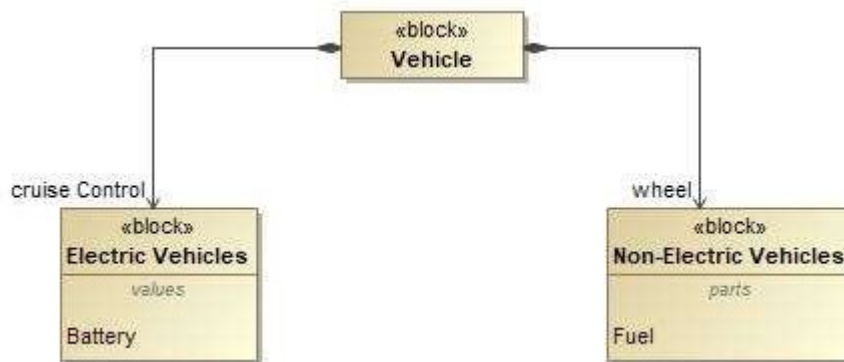

Fig 16: Package Diagram
Step 1: Open Cameo System Modeler then create the block diagram in it. As shown in Fig 16.